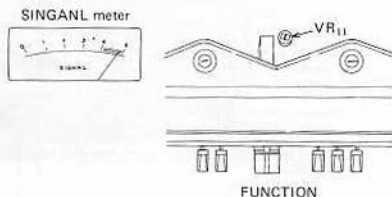

Fig. 9 SIGNAL meter calibration
25. Adjust VR_{11} so that the SIGNAL meter reads 4.8 (80% of the distance between 4 and 5 on the scale, see Fig. 9).